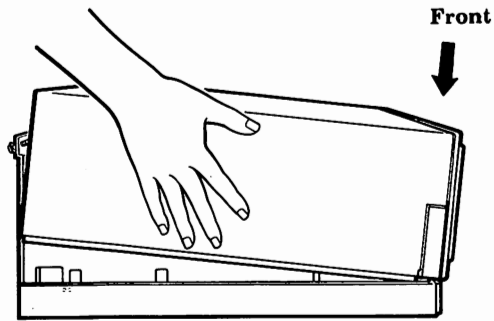

Figure 2-10. Replacing the top cover
- Lower the front of the cover into place. Press in on the sides of the cover as you lower them into place, making sure the cover edges fit inside the processor frame (Fig. 2-10).